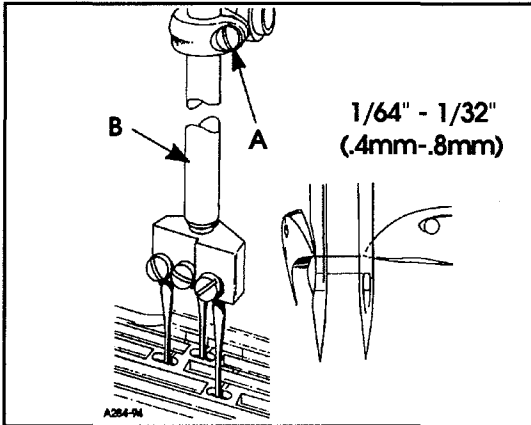

FIG. 9
The height of the needle bar is correct when the top of the needle eye is $1/64''$ to $1/32''$ (.4mm - .8mm) below the underside of the looper, with the looper point even with the right side of the needle. To make adjustment loosen screw (A, Fig. 9) and move needle bar (B) as required to attain dimension.